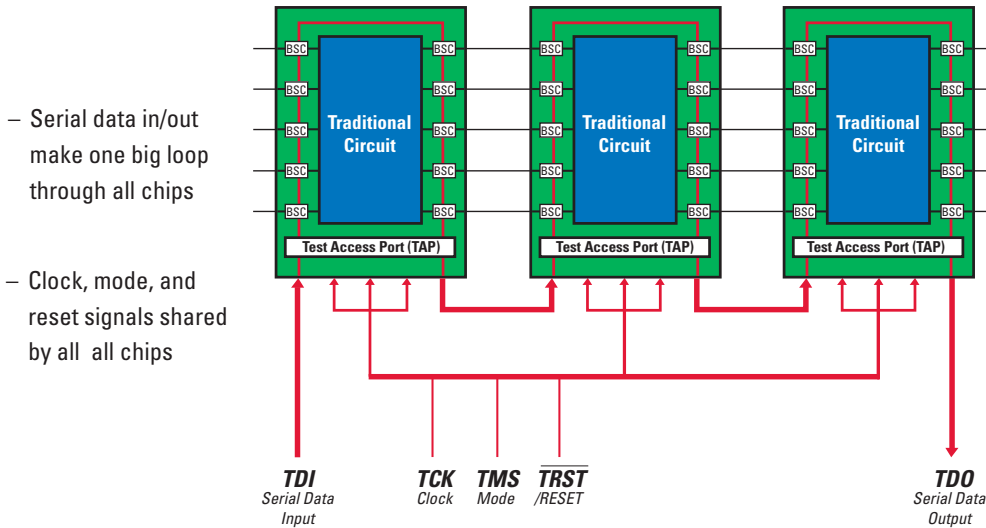

Figure 1. Basic JTAG Chain Interconnect
- 2) It adds a Test Access Port (TAP) consisting of four pins to an IC (five with optional RESET) as shown in *Figure 1*.
All chips are driven by one TMS, TCLK, and  $\overline{\text{TRST}}$  signal from the test device. The TDI and TDO signals are daisy-chained together serially as shown in *Figure 1* and below: